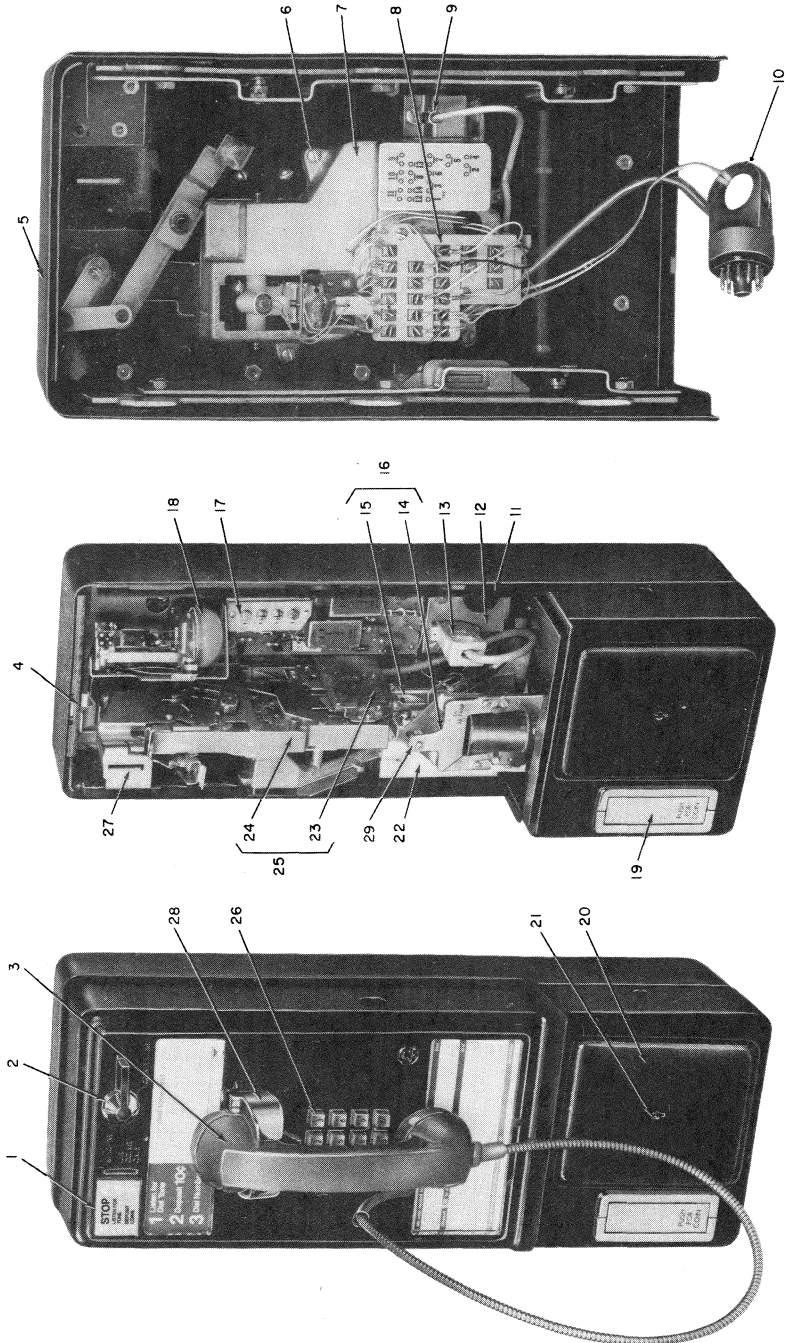

Fig. 1—1D-Type Coin Telephone Set
1.01 This section contains information on the 1D/2D-type coin telephone sets (Fig. 1, 2, and 3) and the D-180707 Kit of Parts (Fig. 4).
- The D-180707 Kit of Parts contains a 47A (MD) or 47A2 signal and a 32A chassis
- 23 – 47A (MD) or 47A2 Signal
- 25 – 20A47A (MD) or 20A47A2 Chute
- 29 – 811057835 Cover (not shown in Fig. 1)
2.02 *Components:* See Table B and Fig. 1 and 2.